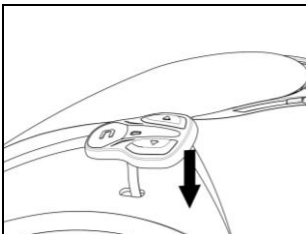

Fig. 4
- Pass the keypad cable through the hole in the outer shell (Fig. 4).